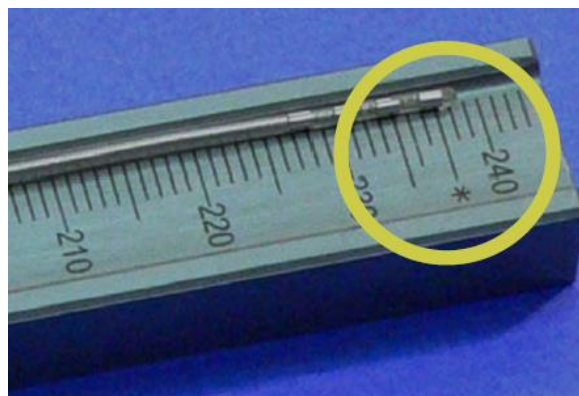

Figure 112: the 237 Marker
7. The 237 marker is where the micro-tip was (Figure 112)